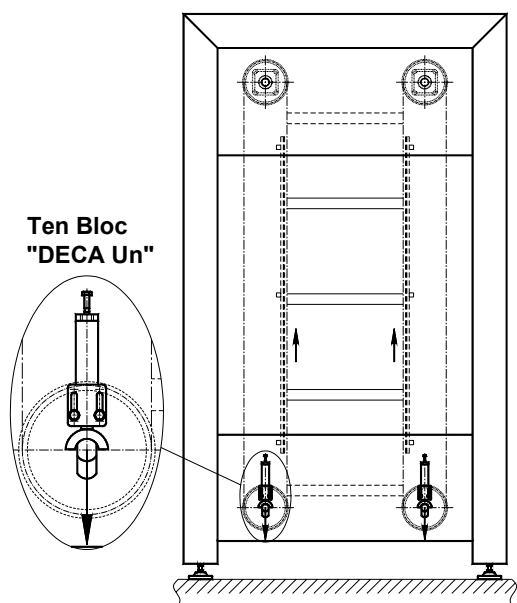

Fig. 4
• In the fig. 4 is represented the positioning diagram of a return unit type "DECA Un" on the side of an elevator and Figure 5 shows in a schematic way a conveyor with function of buffer. The units type "DECA Un" must be positioned in pairs on the lateral sides of the conveyor and they act only in drag conditions, so that they don't allow the driven shaft to oscillate, especially at the starting of the motor.